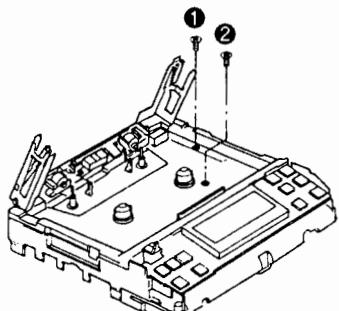

Fig. 1
2. Remove the 2 screws (①, ②). (Refer to Fig. 1.)